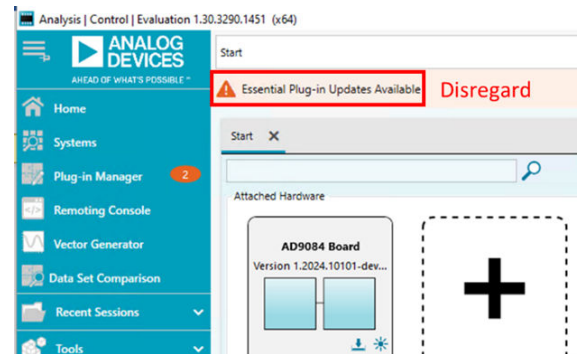

Figure 15. Essential Plug-in Updates Available Message
- c. If within the **Attached Hardware** section an **Essential Plug-in Updates Available** message appears, users should disregard this message (see Figure 15).